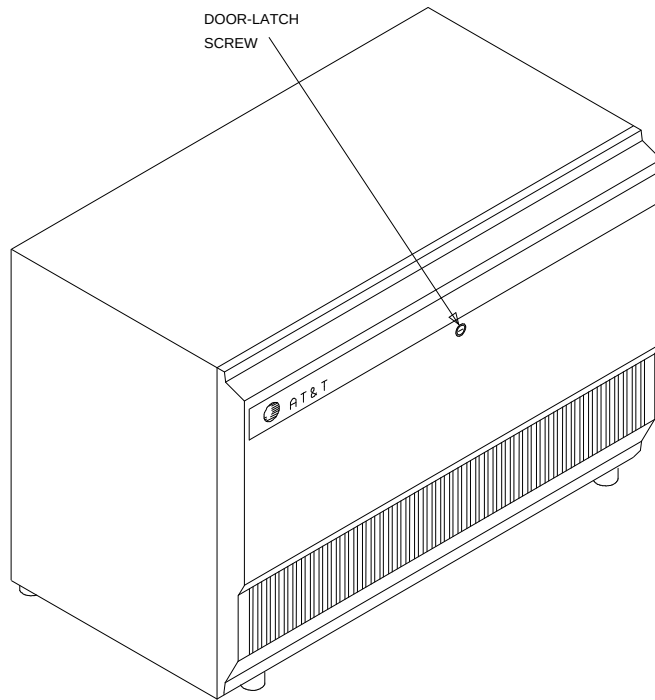

Figure 9-1. Location of Door-Latch Screw for DEFINITY ECS R5si Cabinet
1. Use a screwdriver, and turn door-latch screw counterclockwise one quarter turn to release door (see Figure 9-1).